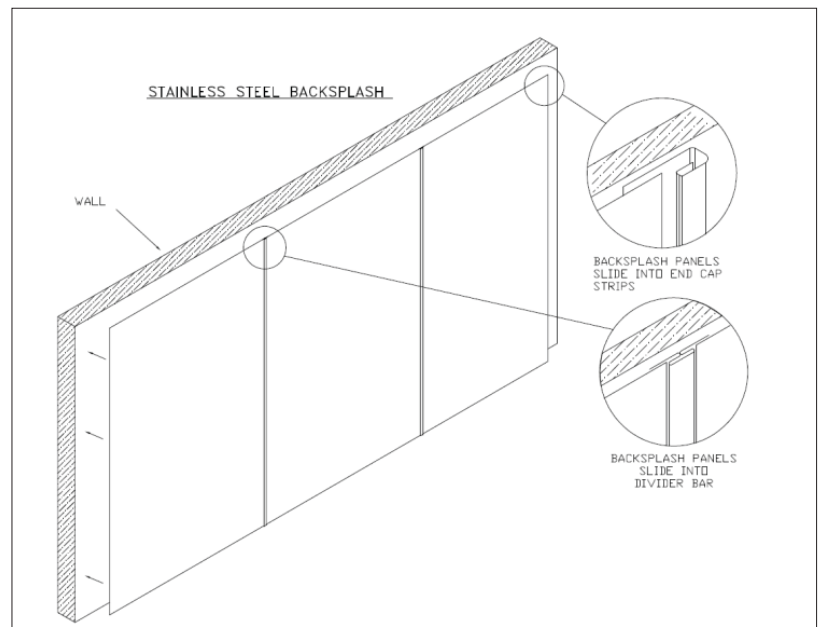

FIGURE 21
4. Secure panels and trim pieces to the wall using construction adhesive. **See Figure 21.**